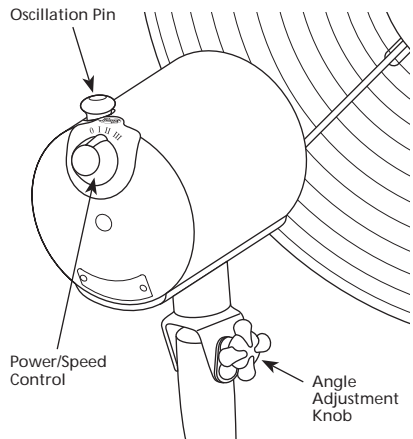

FIGURE 13
3. Use the Power/Speed Control to turn the fan "ON" or "OFF". See Figure 13.
4. To select the speed, move the Power/Speed Control from OFF to the desired speed setting: O (off), I (low), II (medium), III (High). See Figure 13.
5. To adjust the upward or downward flow of air, loosen the Angle Adjustment Knob beneath the Fan Motor. See Figure 13. Position the fan to the desired angle, and tighten the Angle Adjust knob.
6. To make the fan oscillate, push the Oscillation Pin down. To stop the fan from oscillating, pull the Oscillation Pin up. See Figure 13.